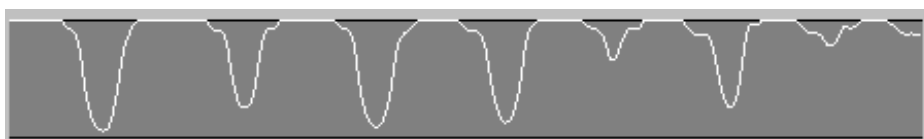

Figure 22 – Clipped Waveform
7. Sometimes the graph will not be centered, and one side of the signal will **clip**. Fig 22 shows an example of this. If clipping occurs, adjust the offset to move the signal up or down. When the waveform is centered again, continue adjusting the gain.